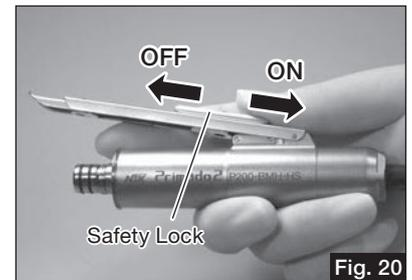

Fig. 20
- 3) Hold the Hand Switch and slide the Safety Lock to ON (Fig. 20).